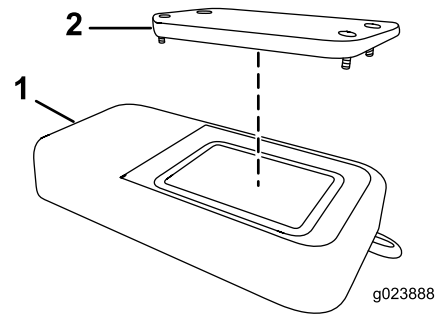

Figure 4
2. Remove the cover (Figure 4).